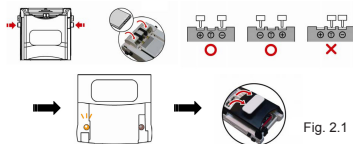

Fig. 2.1
- 2.2 Check the polarity by adjusting the spring contactors with battery charging connectors until the yellow LED (5) indicator turns on.
Adjust the spring contactors pointing horizontally by pressing both sides of the "angle stop releasing knob" (4). Make contact with the battery charging connectors until the yellow LED (5) indicator turns on; then affix the battery with the cover (8) (please refer to Fig. 2.1).